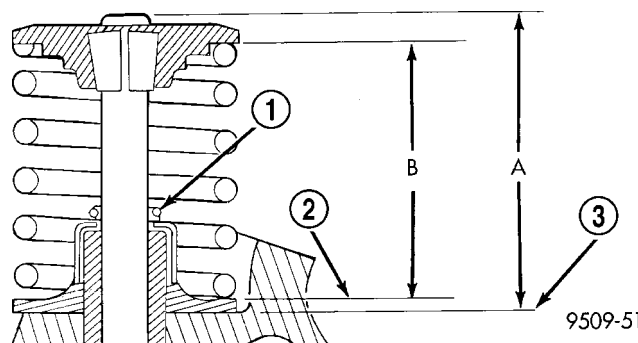

Fig. 39 Spring Installed Height
(5) Check the valve spring installed height after refacing the valve and seat (measurement B) (Fig. 39). Make sure measurements are taken from top of spring seat to the bottom surface of spring retainer. If height is greater than 40.18 mm (1.58 in.), install a 0.762 mm (0.030 in.) spacer under the valve spring seat to bring spring height back within specification.